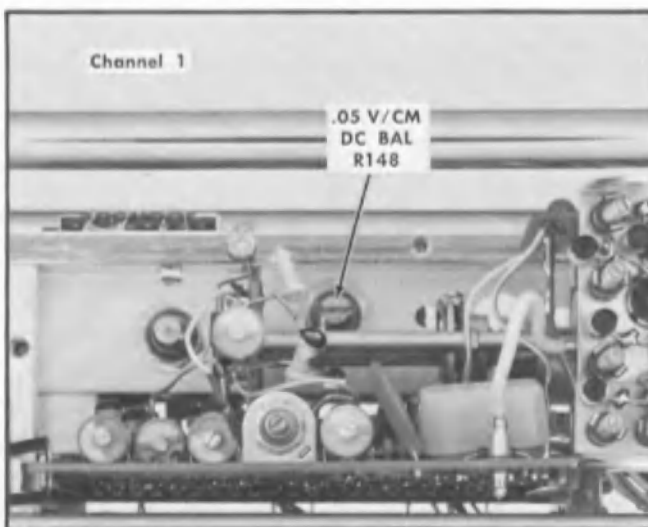

Fig. 7-4. Step 2 adjustment location.
- ADJUST—Channel 1 .05 VOLTS DC BAL control (see Fig. 7-4) to vertically position the trace to coincide with graticule center.